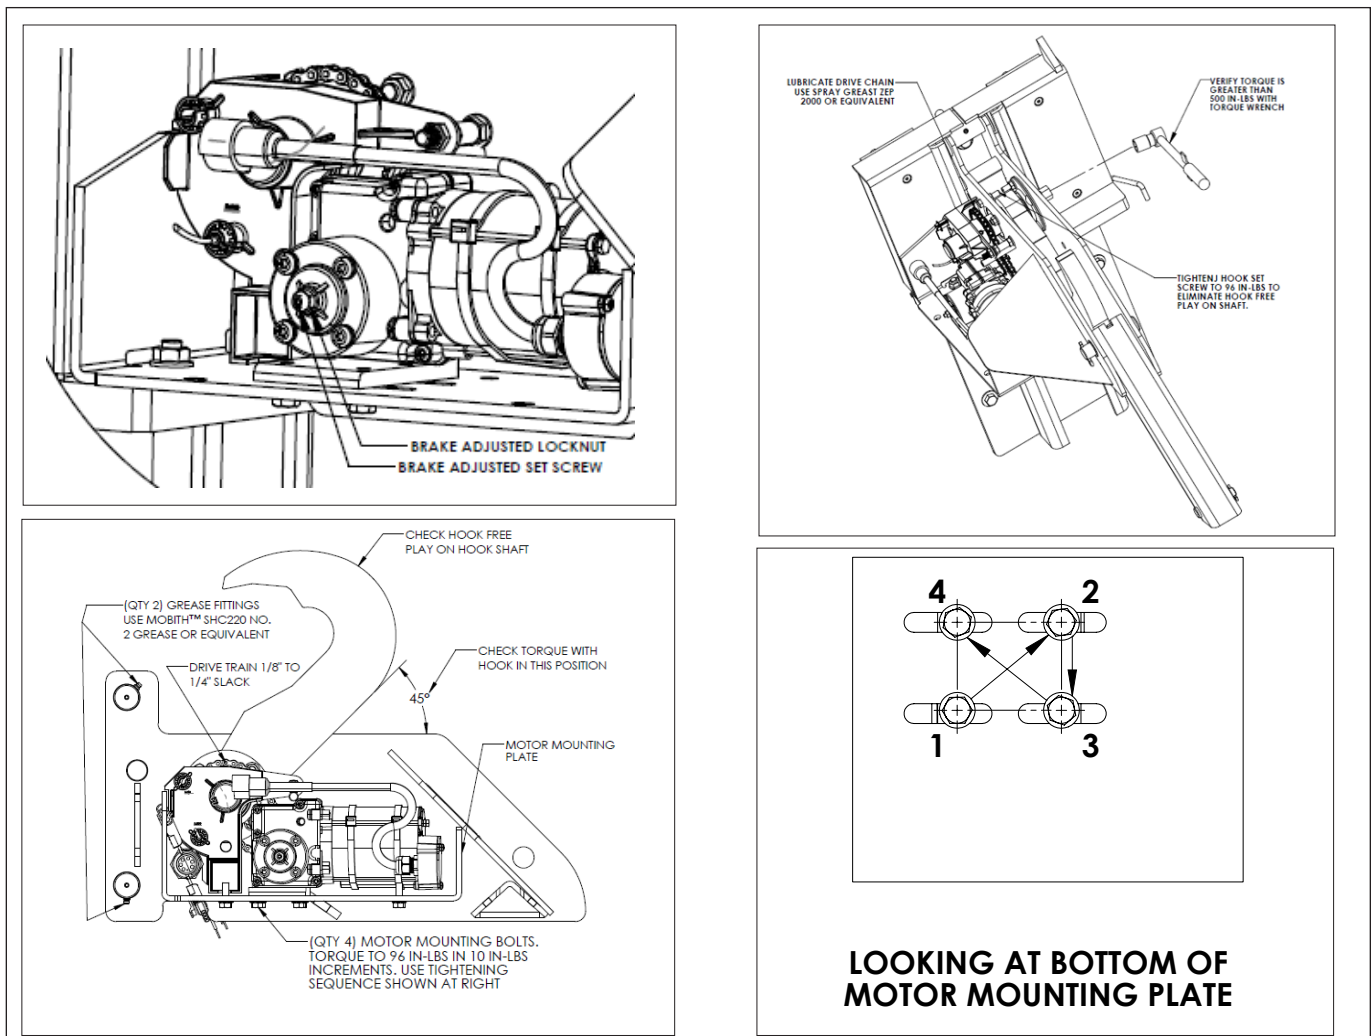

FIGURE 37—MAINTENANCE AND LUBRICATION
- Check and tighten, if necessary, motor drive chain. To tighten see Figure 37, page 45.
The drive chain should not have more than 1/4" slack. Refer to Figure 37. To tighten chain:
(Refer to Figure 37)